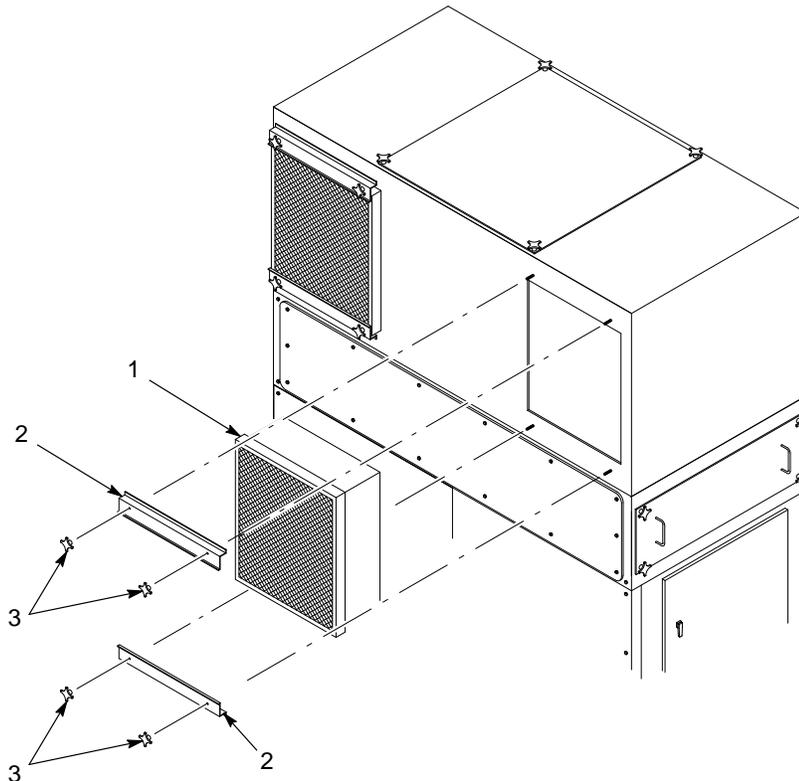

Figure 8-2 Final Filter Replacement
1. See Figure 8-2. Remove the upper and lower final filter brackets (2) by removing the knobs (3).
2. Pull the old final filter (1) out of the powder feed center.